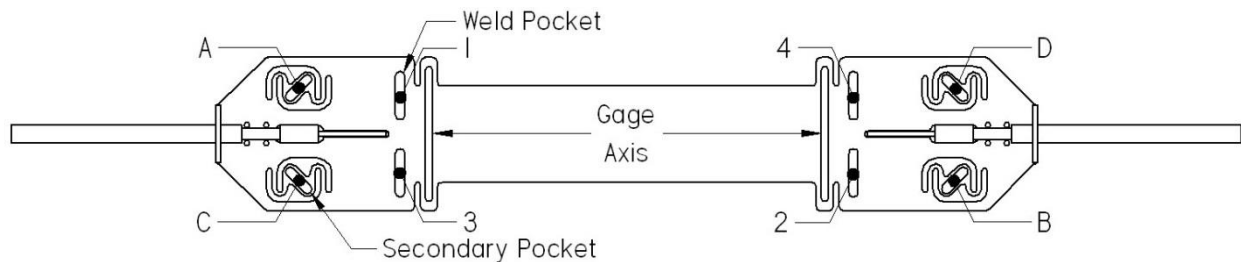

Figure 3 – os3150 Weld Locations
- Position the gage on the surface to be tested. Align the center axis of the gage with the strain axis to be measured. The gage may be held into position with adhesive tape. When applying tape, do not cover weld pockets. Figures 3 and 4 show the gage axis and weld sequence. The gage is welded in place at four primary weld pockets 1 thru 4. Four secondary Weld Pockets A thru D further secure the gage.